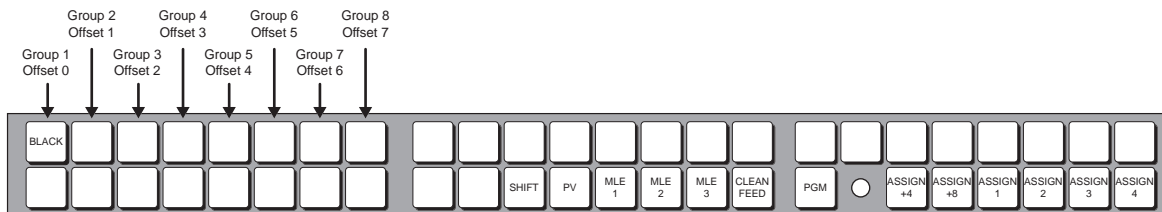

Figure 14.8 GPI Programming Buttons
4. In GPI programming mode, the first **8** crosspoint buttons (**Figure 14.8**) on the Remote Aux Panel allow you to select the **GPI Group** you want to assign to the aux panel.